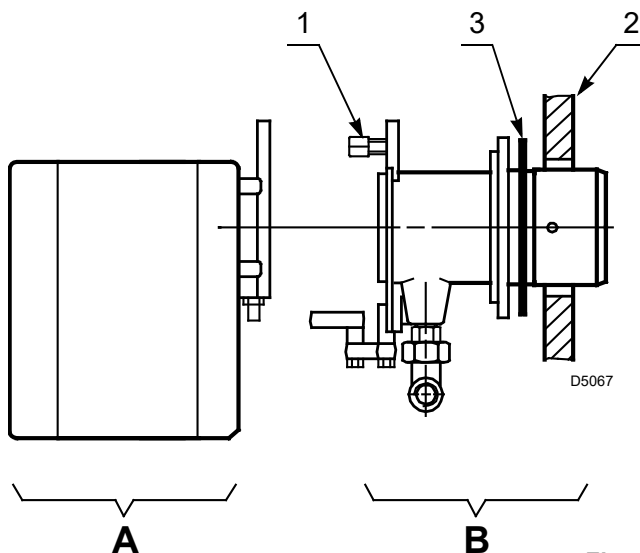

Fig. 9
- body by removing nut 1) and removing the group A)(Fig. 9).
- Fix the group B)(Fig. 9) to the boiler plate 2), inserting the supplied insulating gasket 3).